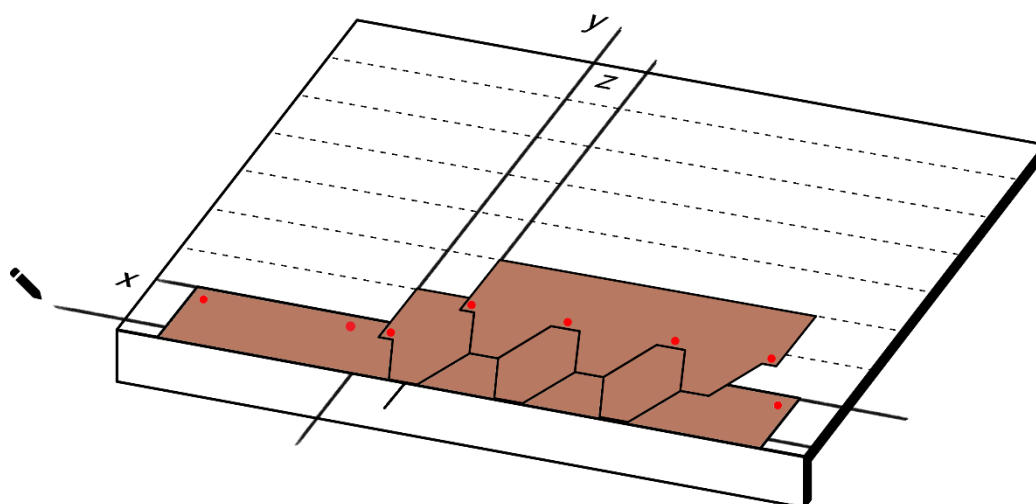
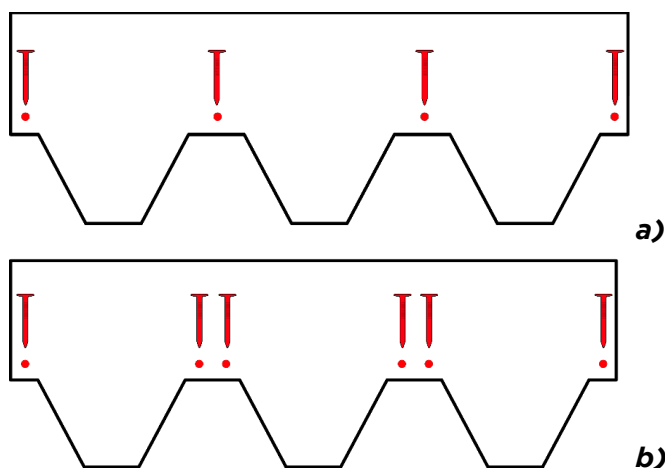

Fig. 7 - Shingles installation
Fig. 8 - Shingle nailing a) slopes <60°; b) slopes >60°
- Apply over the membrane/underlayer a bead of bituminous adhesive Bitustick close to the gutter line - Fig. 7;
- Proceed with the installation of the first row of shingles: align the lateral edge of the first shingle on the vertical **z** and the upper edge on the horizontal 14,3 cm from **x** - Fig. 7. Nail the shingle to the substrate by placing 4 nails per shingle, as per Fig. 8 a). In the event of pitched slopes between 60° and 85°, place 2 additional nails close to the second and third nail, for a total of 6 nails per shingle, as per Fig. 8 b). Proceed by placing all the shingles in the first row.